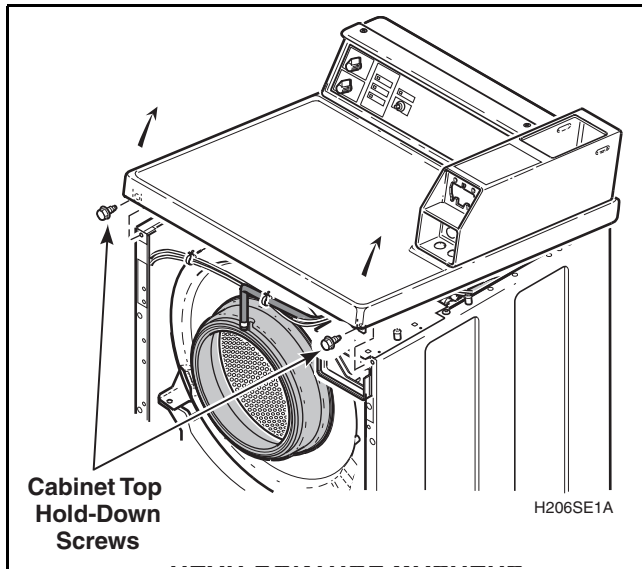

Figure 19
- o. Remove two screws holding front of cabinet top to front flange of side panels. Refer to *Figure 19*.